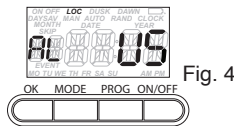

Fig. 4
7. To accept AUTO Daylight Saving Time adjustment press OK and proceed to the next step. To disable Daylight Saving Adjustment (For example, in Arizona or Hawaii) turn knob to display flashing MAN then press OK. LOC will show on top of display. (Fig. 4)
1. The timer is factory-set to the US Daylight Saving rules effective from the year 2007 forward. The display will show ON DAY SAV, flashing 03, and WK 02, meaning timer will adjust forward on 2nd Sunday in March. Proceed to step 9 if you need to change the factory settings or press OK repeatedly to accept the factory settings until LOC appears on top of display and proceed to step 8. (Fig. 4)